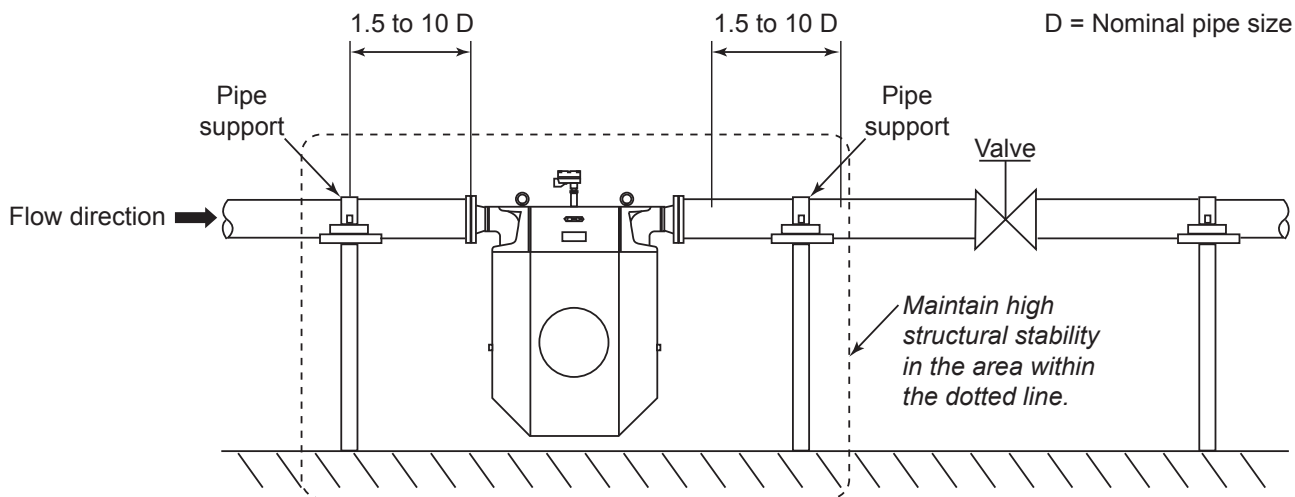

Figure 5.15—Pipe supports for CT Series CC100 and CC150 meters
- While the clamps supporting upstream and downstream piping, pedestal, floor, etc. that hold individual supporting members must be rigid/sturdy enough to bear their weight, it is more important to secure and maintain the rigidity of the entire structure. Changes in the spring elements inside the area marked with dotted lines in Figure 5.15, page 47, can cause zero shifts, especially in large installations. These changes may result from exposure to thermal stress, line pressure, shocks, aging, and other contributing factors.